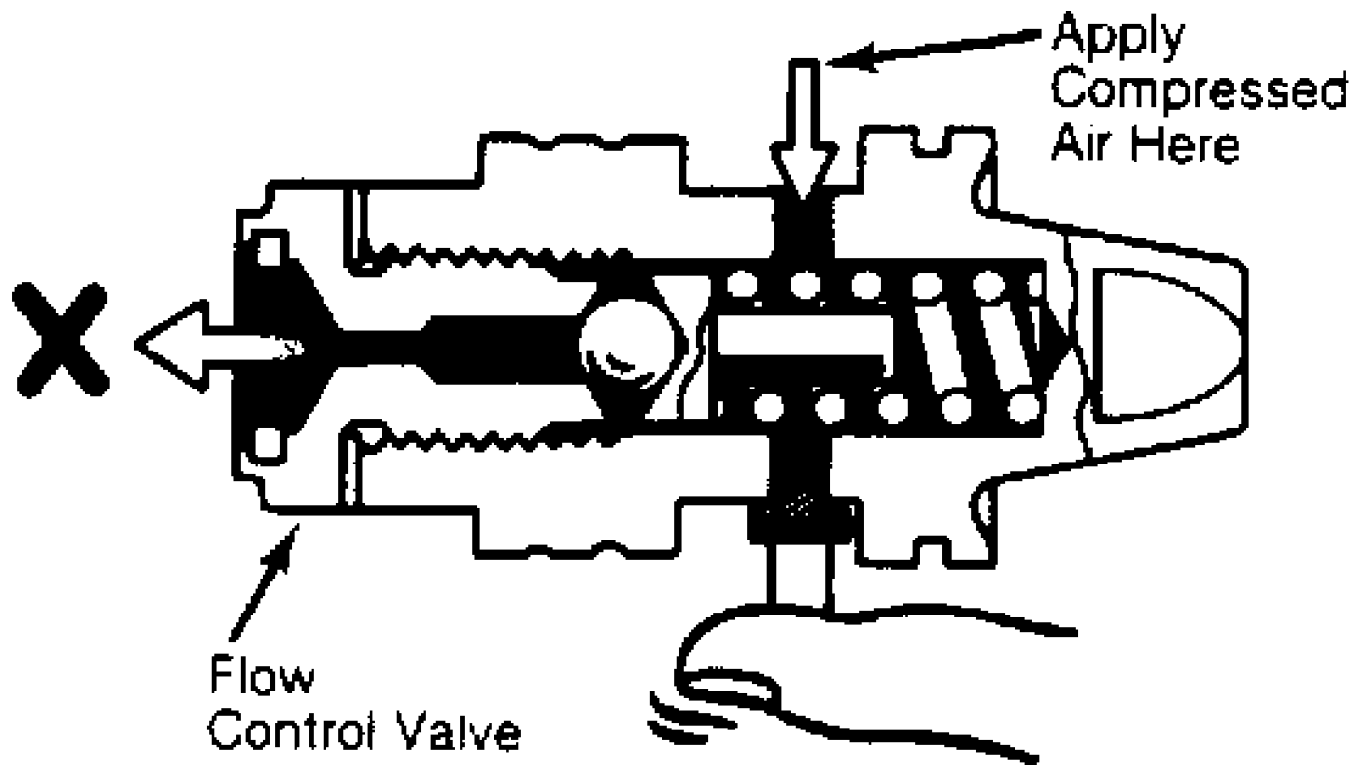

Fig. 3: Checking Flow Control Valve
3) Check flow control valve for leakage, using 57-71 psi (4.0-5.0 kg/cm²) of compressed air. See Fig. 3. On Celica models, control valve spring length should be 1.42-1.49" (36-38 mm). Replace spring, if length is not as specified.